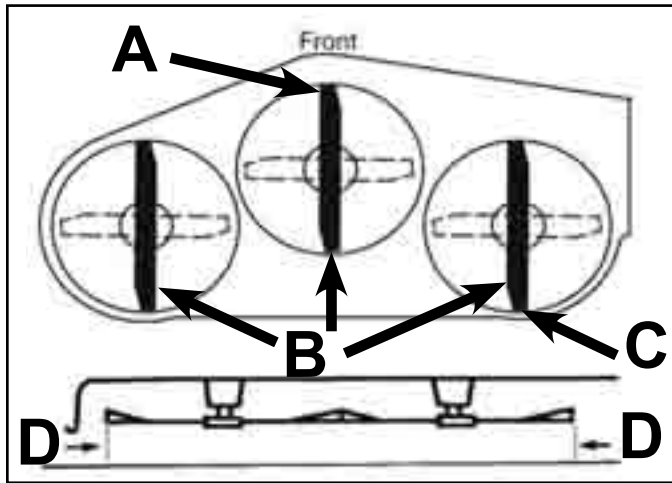

Fig A6 035 fig. 52 1078
9. Check the front-to-rear slope by measuring between the bottom of the mower (front center and rear center) and the flat surface (Fig. A6 035).